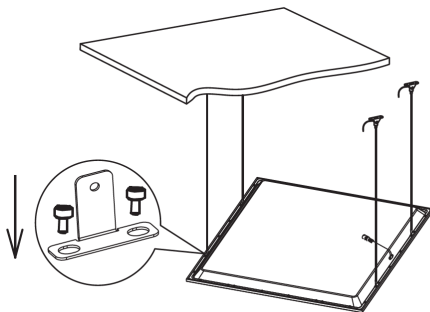

Fig. 4
- Add the 4 x brackets to the panel (see Fig. 4) and adjust the length of the steel wires